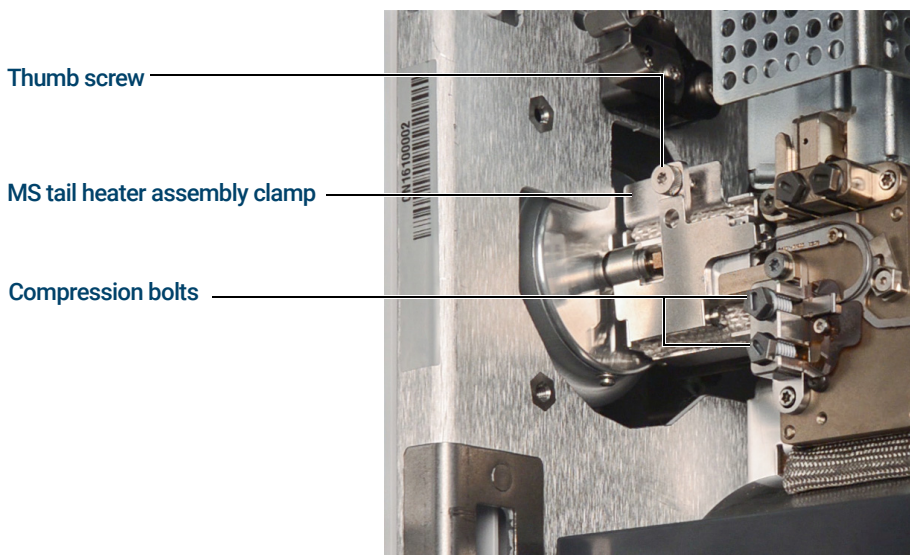

Figure 13. MS tail heater assembly clamp closed
- 9 Using the Intuvo torque driver, remove the compression bolt that secures the 9000 GC/MS Tail click and run bus connection. Also remove the bolt from the empty bus connection. (See Figure 13.)